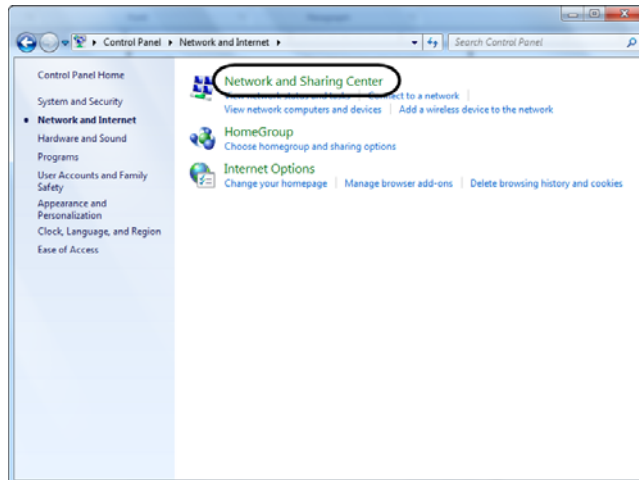

Figure 65
3. Click on the **Network and Sharing Center** link (Figure 65).